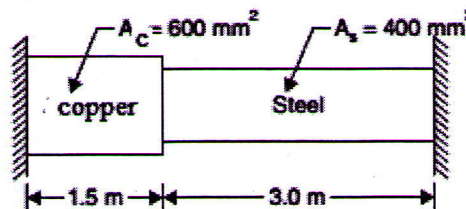

Fig.2
- 3 a) The composite bar shown in fig.2 is rigidly fixed at the ends A and B. Determine the reaction developed at ends when the temperature is raised by 25°C. Given $E_{cu} = 140$ kN/mm², $E_s = 200$ kN/mm², $\alpha_{cu} = 17.5 \times 10^{-6}/^\circ\text{C}$, $\alpha_s = 12 \times 10^{-6}/^\circ\text{C}$ (10)